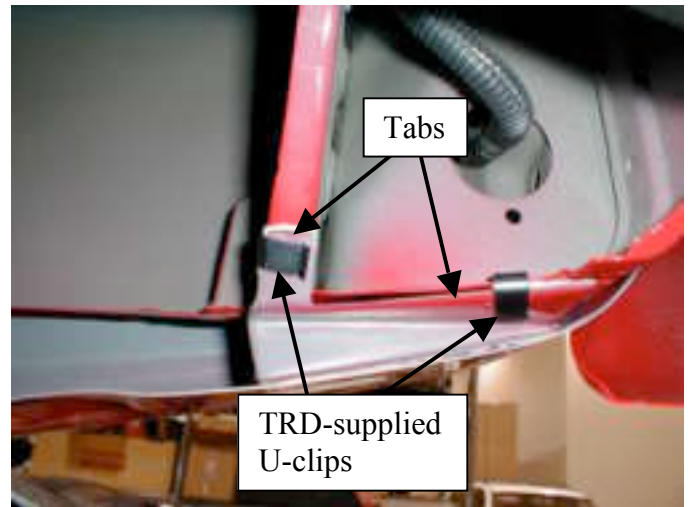

Figure 11
8. Place a pair of U-clips to attach the tabs of the part to the bed (Figure 11).